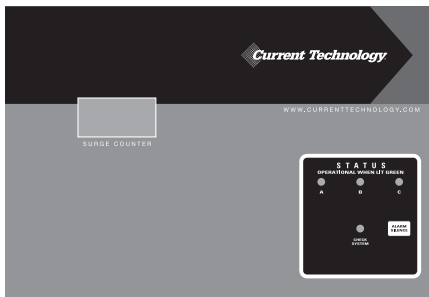

Figure 12: PX3 with M2 Standard Monitoring with Surge Counter.
The M1 Standard Monitoring is equipped with a dual set of Form “C” contacts (see Figure 12). The relay containing the contacts is in the “alarm condition” or normally closed when the power is off to the unit, when the unit is encountering loss of power to one or more phases, or the PX3 is encountering more than 40% loss of capacity due to internal fuse operation. Test the operation of the Form “C” contacts by de-energizing the PX3 and checking the state of the contacts with a continuity tester or observing the effect of the contacts on the user provided remote alarm circuits.
► If your PX3 has the M2 Option (See Figure 12):